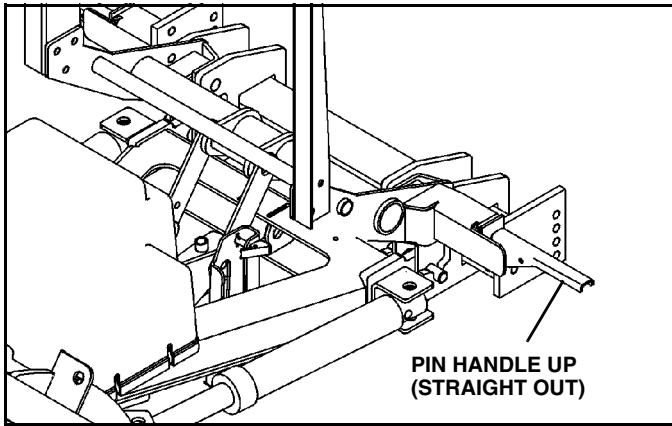

Figure 1-7
4. Rotate pin handles up (straight out) to unlock main pins. (See Figure 1-7).